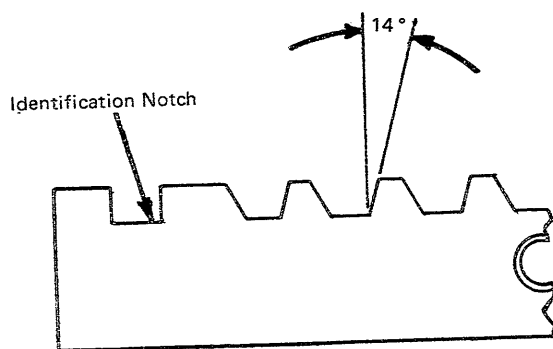

Figure 1-4. Notched Escapement Rack
3.11 The angle of inclination for the Selectric I/O production escapement rack teeth has been reduced to 14°. This change increases the escapement pawl to escapement rack holding angle. The 14° escapement rack has a milled notch (Figure 1-4) on the left end.